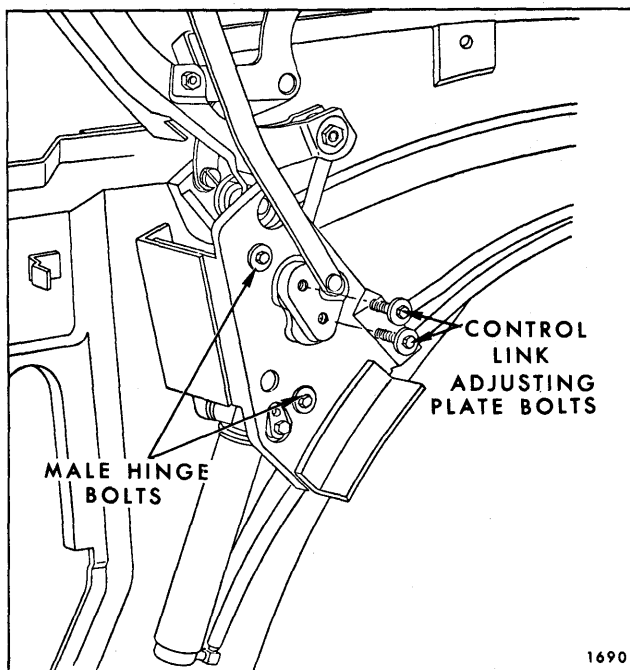

Fig. 13-80—Male Hinge Attachment
- c. Loosen two bolts securing control link adjusting plate sufficiently to permit adjustment of plate (Fig. 13-80).
- b. Loosen male hinge assembly and control link attached bolts (Fig. 13-80).
- b. Loosen male hinge assembly attaching bolts (Fig. 13-80).
2. Male hinge assembly misaligned.	Adjust male hinge assembly rearward (Fig. 13-80).
2. Male hinge assembly misaligned.	Adjust male hinge assembly forward (Fig. 13-80).